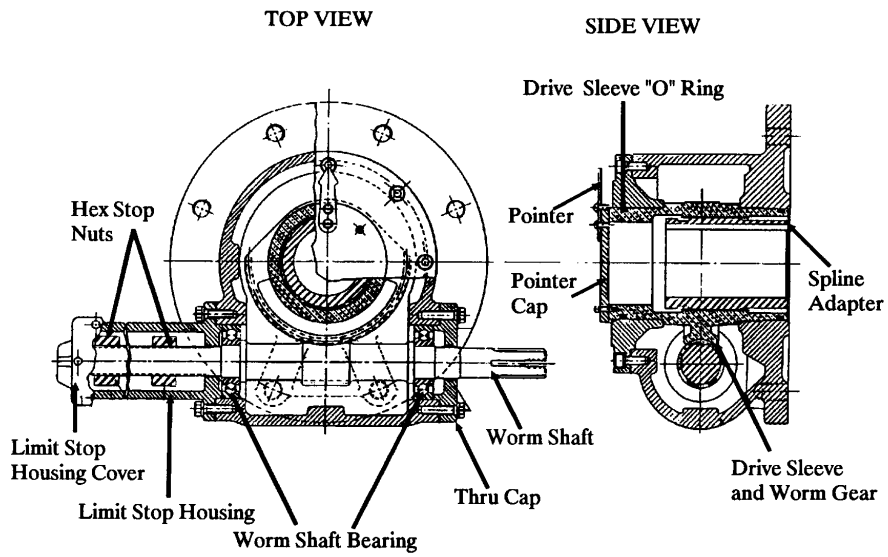

Figure 2-52 HBC- 0 Through 3 Top and Side Views
HBC-0 Through HBC-3 Reassembly Refer to Figure 2-52
13. Install pointer cap with pointer. Refer to Figures 2-52 and 2-54